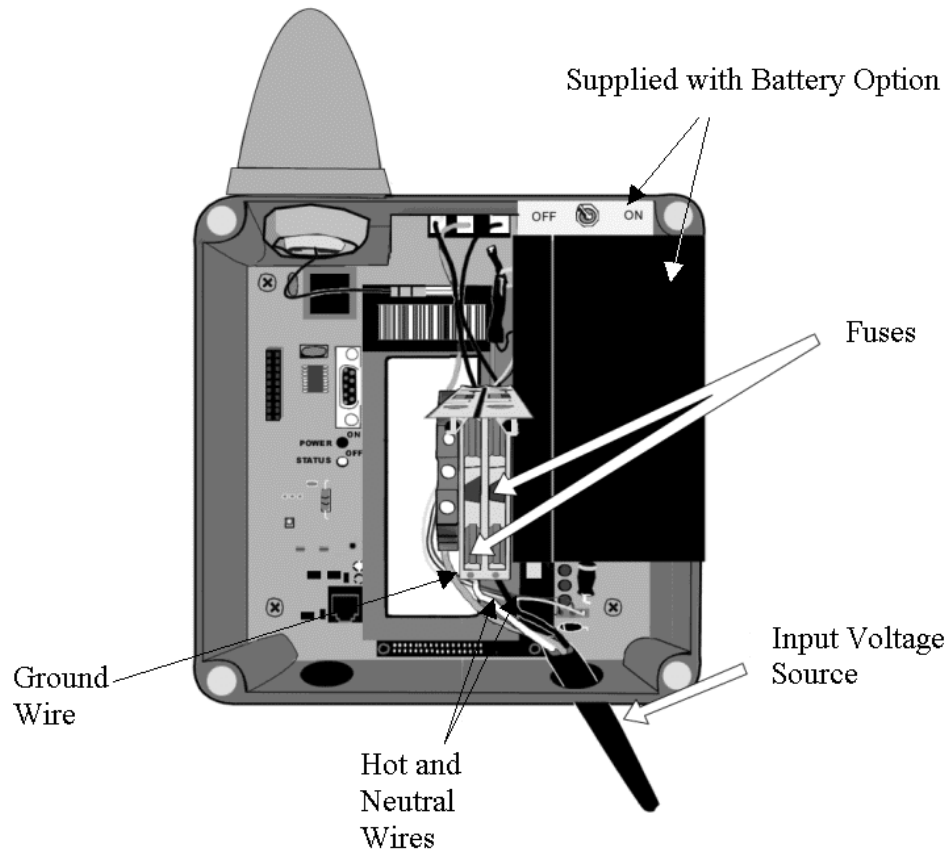

Figure 1-3. Connecting an Input Voltage Source
2. Insert the power cord through the conduit hole at the bottom of the compartment (see Figure 1-3).
NOTE: OMEGA has two 2A slo-blo fuses. To access the fuses, lift the power connector handles as shown in Figure 1-3.